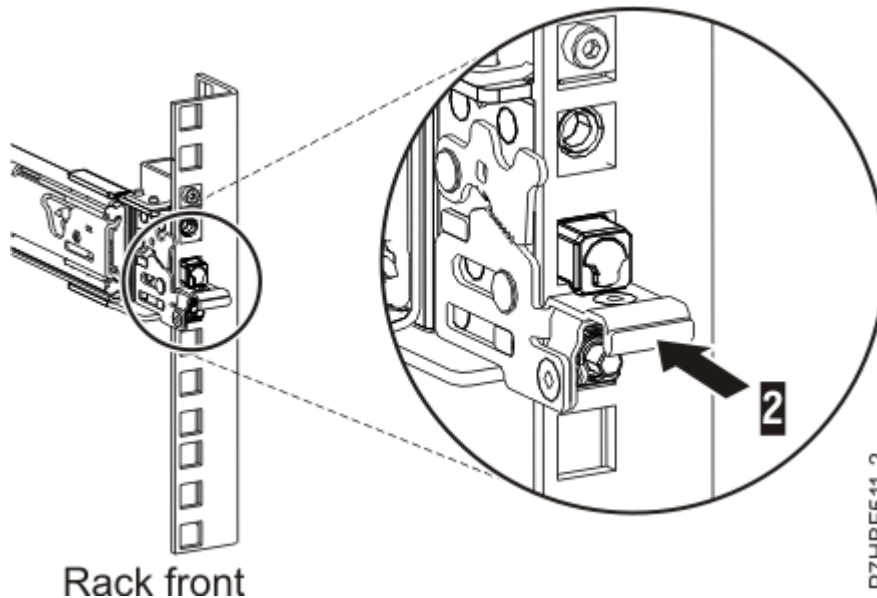

Figure 6: Latch seated on the front rail of the rack
7. While you pull the slide rail forward, ensure that all three pins protrude through the rack holes, then push the front latch **(2)** all the way in. For details, see Figure 6 on page 6.